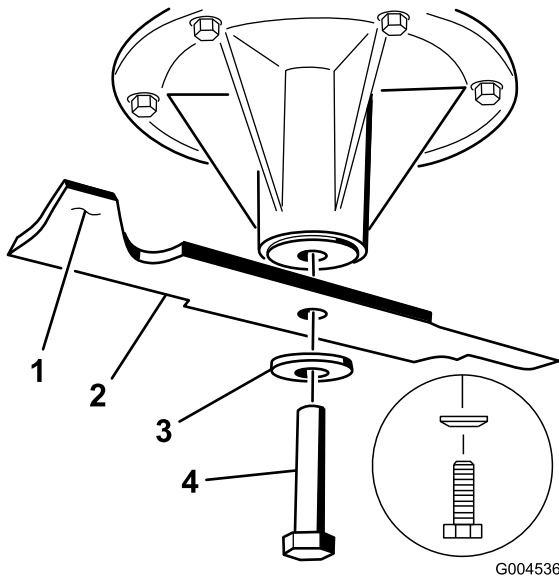
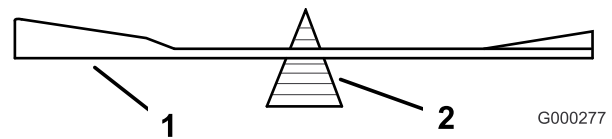

Figure 86
Figure 88
2. Remove the blade bolt, curved washer, and blade from the spindle shaft (Figure 86).
2. Check the balance of the blade by putting it on a blade balancer (Figure 88). If the blade stays in a horizontal position, the blade is balanced and can be used. If the blade is not balanced, file some metal off the end of the sail area only (Figure 86). Repeat this procedure until the blade is balanced.